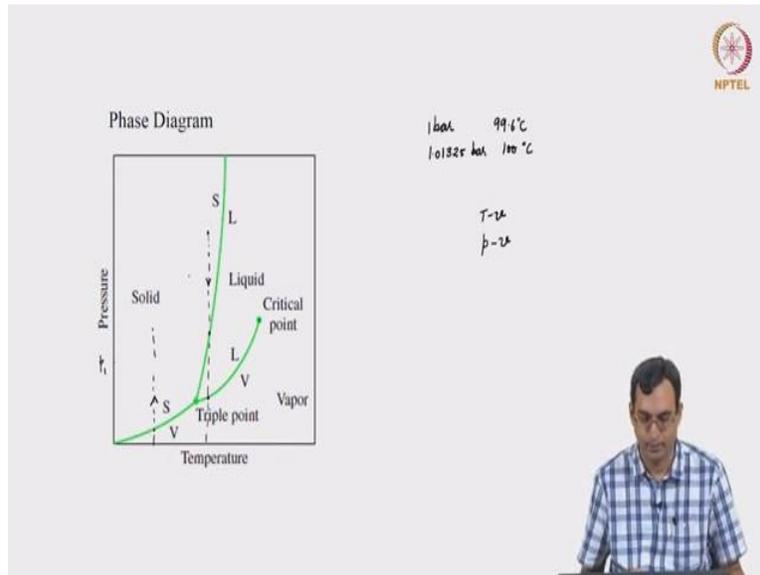

Figure 7.
Let's look at a p-T diagram. We know that during phase change, the pressure and the temperature remains constant. This pressure and the corresponding saturation temperature form a point on p-t diagram. Similarly, different pressures and the corresponding saturation temperature can be represented by different points on a p-T diagram. If we join all these points, we get curves as shown in Fig. 7, which are for a substance which contract on freezing. On a p-T diagram, you don't get a liquid-vapor dome (two phase region). The curves in Fig. 7 show a fusion line, a sublimation line and a vaporization line. A substance changes phase from solid (S) to liquid (L) across the fusion line. A substance changes phase from liquid (L) to vapor (V) across the vaporization line. A substance changes phase from solid (S) to vapor (V) across the sublimation line. These lines separate regions of three phases of a substance. These lines meet at the triple point where a mixture of solid, liquid and gaseous phases of a substance exists in equilibrium. Till now, we were looking at only the conversion from liquid to vapor. For example, in Fig. 7, the complete conversion of a given amount of liquid substance to vapor at saturated conditions happen at a point on the vaporization line (L-V line). A critical point is also shown in Fig .7.